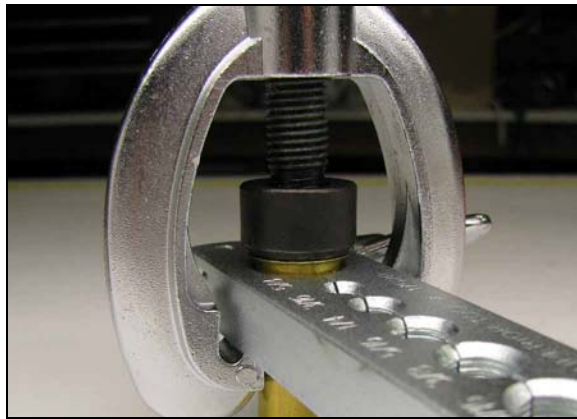

Figure 5: Flaring One End of the Brass Tube
- EPX(TM) Helical Mixing Nozzle (Allied Electronics: <http://www.alliedelec.com/search/productdetail.aspx?SKU=70039962>)
- Using a flaring tool, flare out one end of the brass tube (Figure 5).